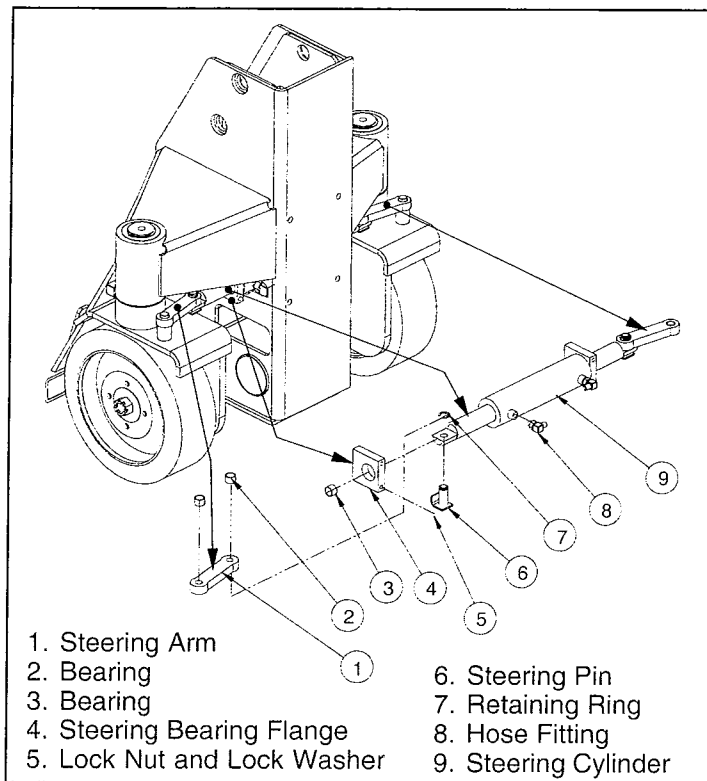

Figure 3-14: Steering Cylinder Installation
1. Referring to Figure 3-14, position the drive motor in the motor mount and secure with capscrews and locknuts. Torque to 75 ft.lbs. (102 N-m).
3.12 Steering Cylinder (Figure 3-14)